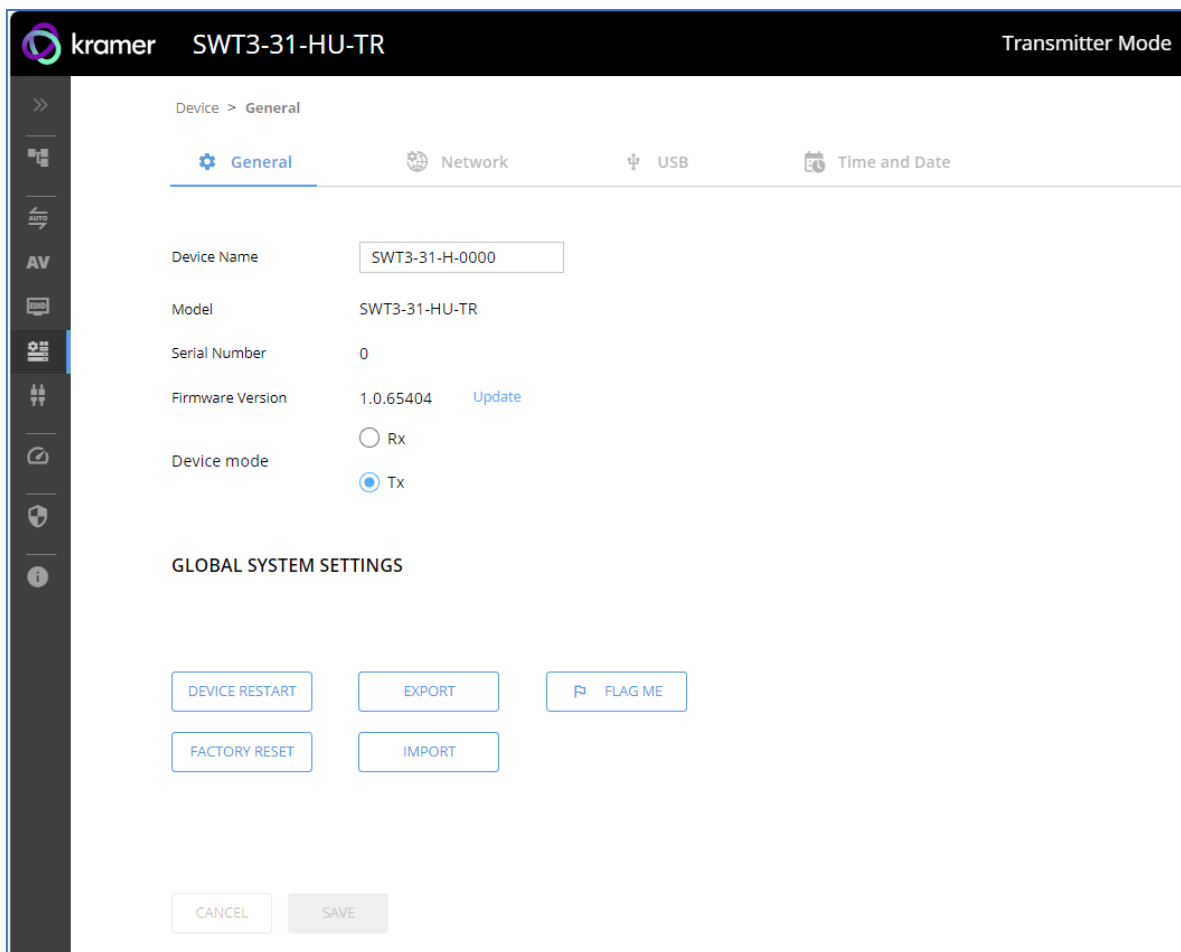

Figure 22: Device > General Page
1. Go to the **Device > General** page (Figure 22).
- Click **DEVICE RESTART** on the **Device > General** page (Figure 22).
- Click **FACTORY RESET** on the **Device > General** page (Figure 22).